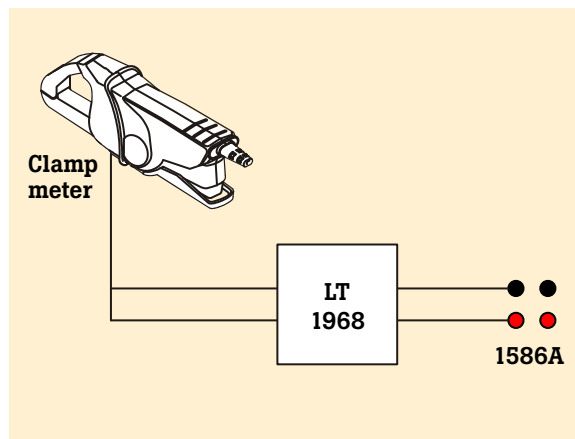

Figure 4. Current measurement with a Fluke i200s clamp meter
The custom bath compressor current is ac current. It was measured using a Fluke i200s ac Current Clamp. This clamp meter is a passive device that provides an ac voltage output. The clamp was set to 100 mV/A for this measurement. The 1586A measures dc voltage but not ac voltage. To make the conversion, a simple circuit based on a Linear Technology LTC1968 was used. This chip is a true RMS converter that converts the RMS ac voltage into a dc voltage of the same value. A block diagram of the circuit is shown in Figure 4. For the 1586A $Mx+B$ scaling settings, gain was set to 10, offset was set to 0, and the units were Amperes (A).